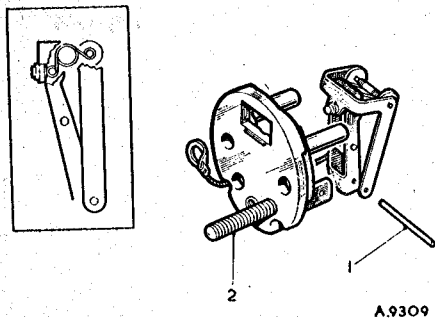

Fig. 3. Fitting the rocker assembly to the pedestal. (Inset) the correct position of the centre toggle spring
1. Invert the pedestal and fit the rocker assembly to it by pushing the steel pin (1) (Fig. 3) through the small holes
in the rockers and pedestal struts. Then position the centre toggle so that, with the inner rocker spindle in tension against the rear of the contact point, the centre toggle spring is above the spindle on which the white rollers run (see Fig. 3). This positioning is important to obtain the correct 'throw over' action; it is also essential that the rockers are perfectly free to swing on the pivot pin and that the arms are not binding on the legs of the pedestal.